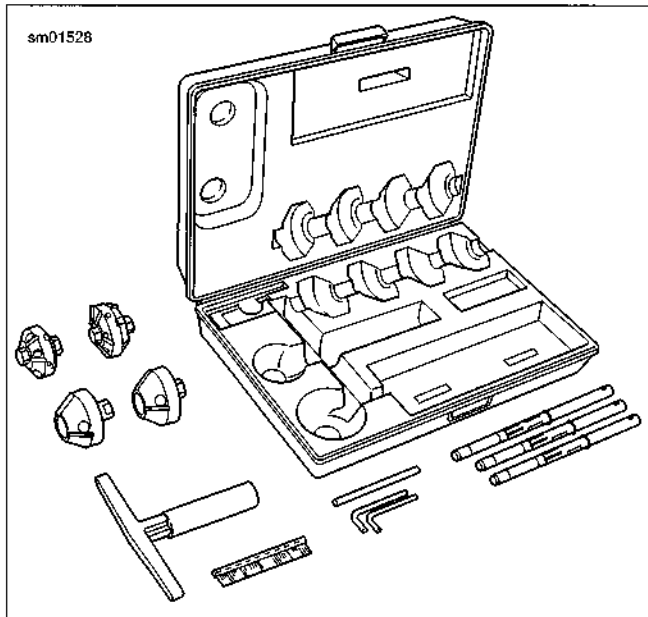

Figure 3-41. Neway Valve Seat Cutter Set (Part No. HD-35758-C)
5. See Figure 3-41. Obtain the NEWAY VALVE SEAT CUTTER SET (Part No. HD-35758-C). Select the correct CUTTER PILOT (Part No. B-35758-52A). Securely seat the pilot by pushing down and turning using the installation tool supplied in the tool set.